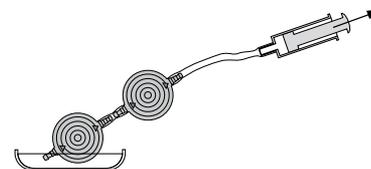

Fig. 21: Patency test
*M.blue plus* should be vented before implantation and checked for permeability. The most careful way of filling the valve is by aspiration through a sterile single-use syringe attached to the distal end of the catheter. The distal end of the valve is connected and immersed in a sterile physiological salt solution. The valve is continuous if saline solution can be extracted (Fig. 21).